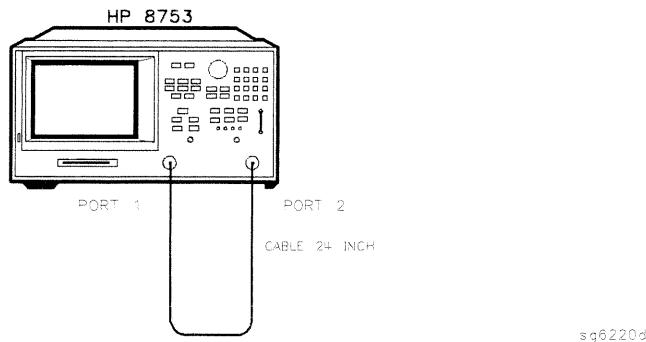

Figure 2-30. Test Port 2 Input Frequency Response Test Setup
47. When the analyzer displays the message POWER METER CALIBRATION SWEEP DONE, connect the equipment as shown as in Figure 2-30.